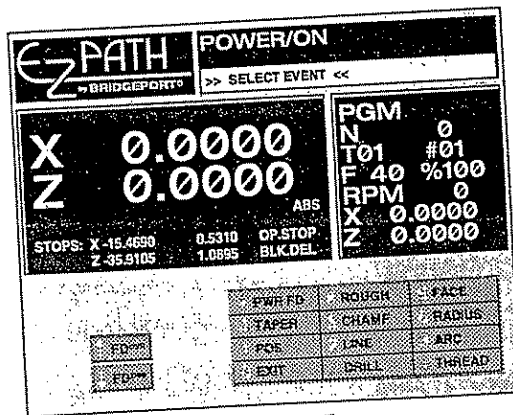

Figure 3-5
- 3) Press the **[2]** DO EVENT key. A screen as shown in Figure 3-5 will appear.